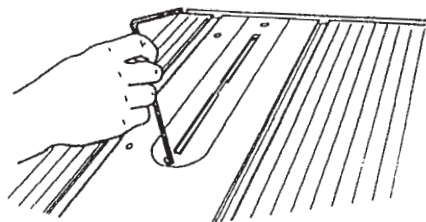

Figure B-51
9. Use a 5/32" Allen wrench to remove the table insert, as demonstrated in Figure B-51.